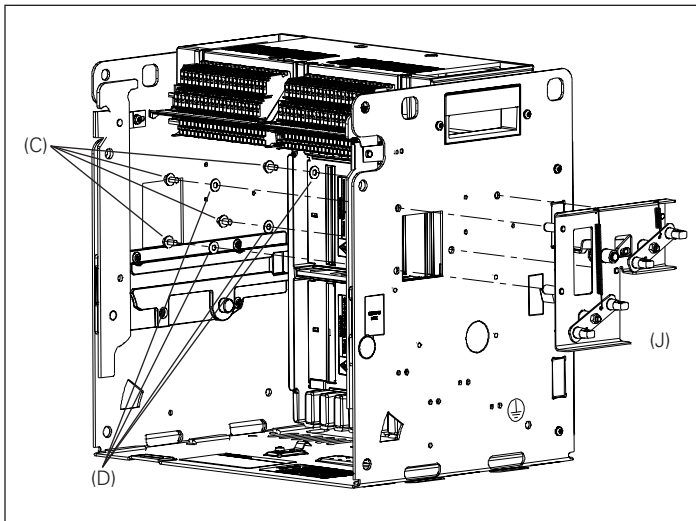
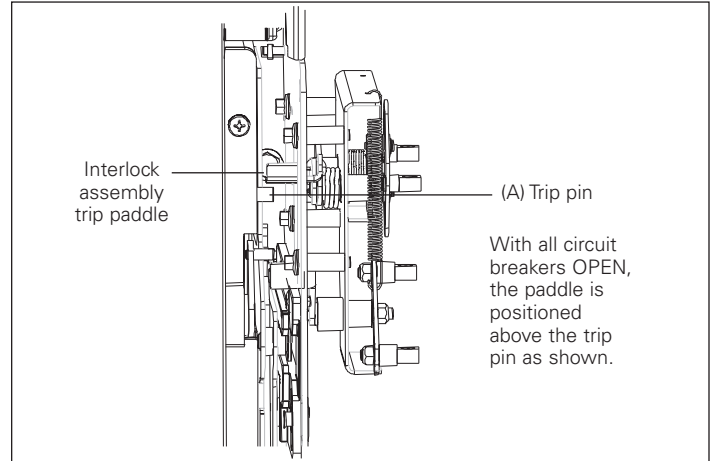

Figure 8. Details for Step 5
Figure 9. Details for Step 5
Fasten interlock assembly (J) to drawout cassette's right-side sheet using four M6 x 12 mm hex bolts (C) and lock washers (D) as shown in Figure 8. Torque to 4,5–5,6 N·m (40–50 in-lb). Ensure that once the breaker is racked in, the interlock assembly trip paddle is above the trip pin on the trip bar as shown in Figure 9.